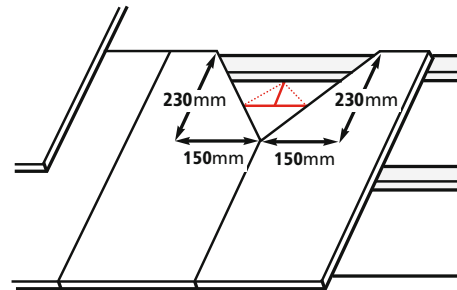

Fig. 2
3. Cut an upside down 'T' shape in the roofing underlay from the bottom edge of the top batten. Fold the triangle shaped flaps outwards and under the vent to deflect and prevent water and debris penetration through the roof underlay, Fig.2.